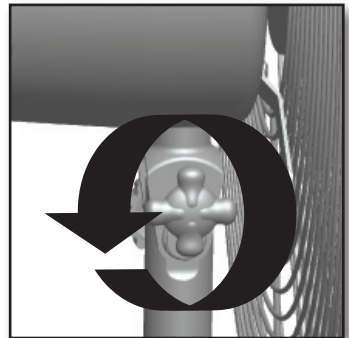

Figure 21.
2. Adjust the fan to the angle desired and retighten the knob to secure the fan at that angle. Figure 21.